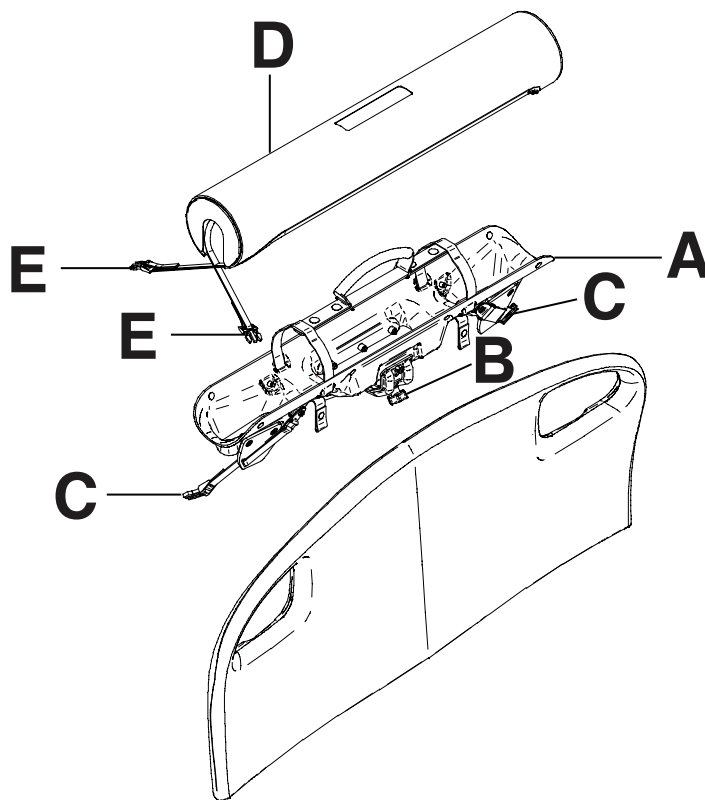

Figure 133: Right fit oxygen bottle holder
1. Place the oxygen bottle holder on top of the headboard (A) (Figure 133 on page 115).
2. Screw on the oxygen bottle holder clasp onto the headboard (B) (Figure 133 on page 115) to secure the bottle holder to the product.
3. Route the bottom straps (C) through the headboard handles (Figure 133 on page 115).
6. Place the oxygen bottle holder cover on top of the oxygen bottle (D) (Figure 133 on page 115).
7. Fasten the oxygen bottle holder cover straps together (E) (Figure 133 on page 115).